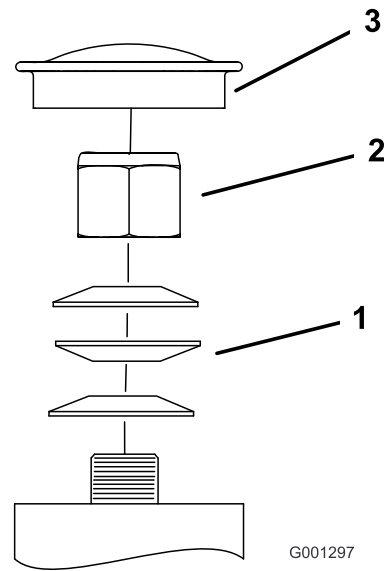

Figure 58
3. Remove the dust cap from caster and tighten lock nut (Figure 58).
4. Tighten the locknut until the spring washers are flat and then back off a 1/4 turn to properly set the pre-load on the bearings (Figure 58).
**Important:** Make sure spring washers are installed correctly as shown in Figure 58.
5. Install the dust cap (Figure 58).